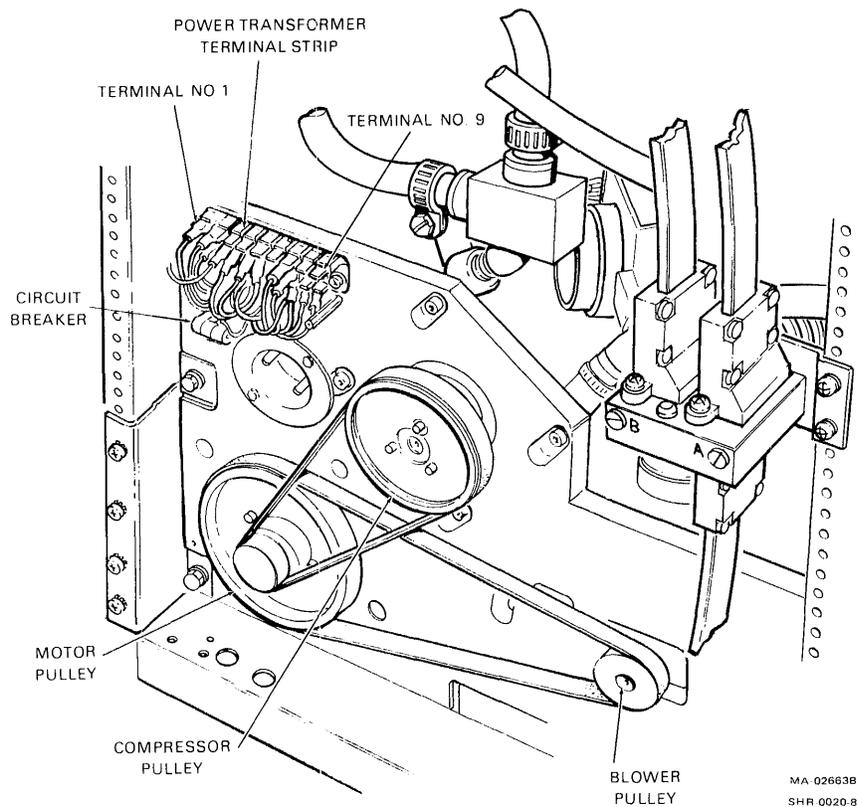

Figure 2-11 Rear of Power Pack with Pulley Cover Removed
4. Remove the cover from the power transformer terminal strip (Figure 2-11). (Also remove the ac input plug on power pack.) Make sure the blue, brown, and white/red wires are connected according to Table 2-1. The terminals are numbered 1 through 9, from left to right. Replace the cover and connect the power pack connector.